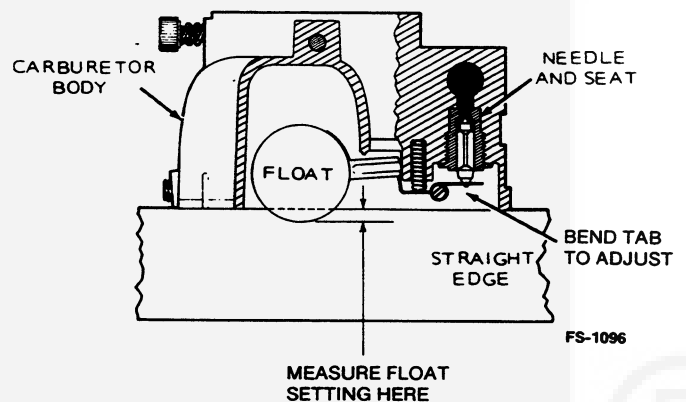

FIGURE 15. FLOAT LEVEL ADJUSTMENT
5. Measure the distance between the fuel bowl and the free end of the float (Figure 15). The float should have a 0.02 ± 0.02 inch (0.5 ± 0.5 mm) clearance from the machined mating surface (without gasket).
LUA series carburetors have the float assembly mounted in the fuel bowl section of the carburetor. Float measurement is made by inverting the fuel bowl section and measuring the distance from the float to a straight edge laid across the body of the fuel bowl (Figure 15).
6. If the setting is incorrect, remove the float assembly to adjust. Bend the assembly slightly at the location specified in Figure 15.